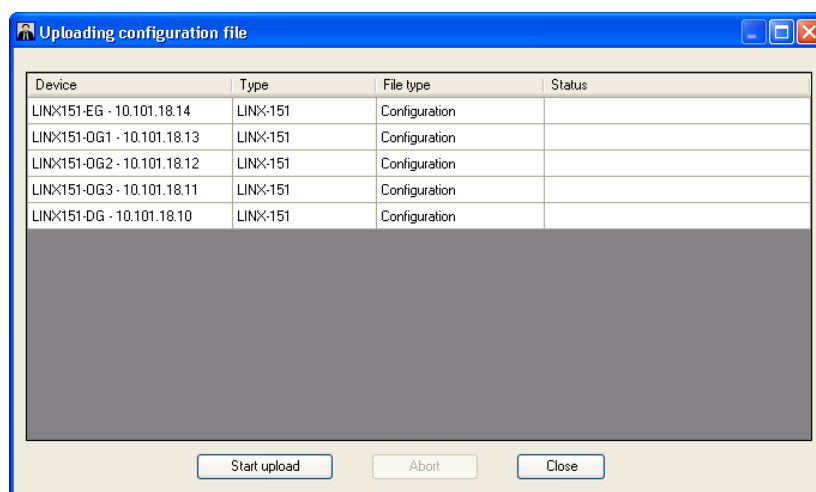

Figure 209: Upload Configuration File Dialog
3. The **Upload configuration file dialog** opens as shown in Figure 209. This dialog displays a list of devices and the configuration files which will be uploaded. To start the upload, press the **Start upload** button.